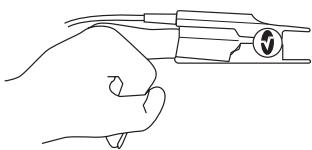

Fig. 2
- The hinged tabs of the sensor should open to evenly distribute the grip of the sensor along the length of the finger. Check position of sensor to verify correct positioning. Complete coverage of the detector window is needed to ensure accurate data (Fig 2).